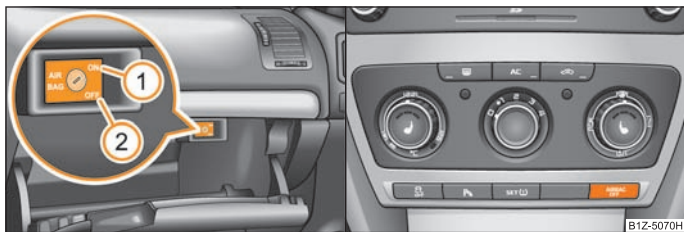

Fig. 142 Storage compartment: Switch for the front passenger airbag/indicator light for a switched off front seat passenger airbag
- if the airbags are switched off, this is indicated in the middle of the dash panel by the lighting up of the indicator light **AIRBAG OFF** ⇒ fig. 142 - right.
- Turn the slot of the airbag switch using the key in the position ② (OFF) ⇒ fig. 142.
- Check whether the indicator light **AIRBAG OFF** in the middle of the dash panel lights up when the ignition is switched on ⇒ fig. 142 - right.
- Turn the slot of the airbag switch using the key in the position ① (ON) ⇒ page 152, fig. 142.
- Check whether the airbag indicator light **AIRBAG OFF** in the middle of the dash panel lights up when the ignition is switched on ⇒ page 152, fig. 142 - right.
The airbag indicator light is located in the middle of the dash panel ⇒ page 152, fig. 142 - right.